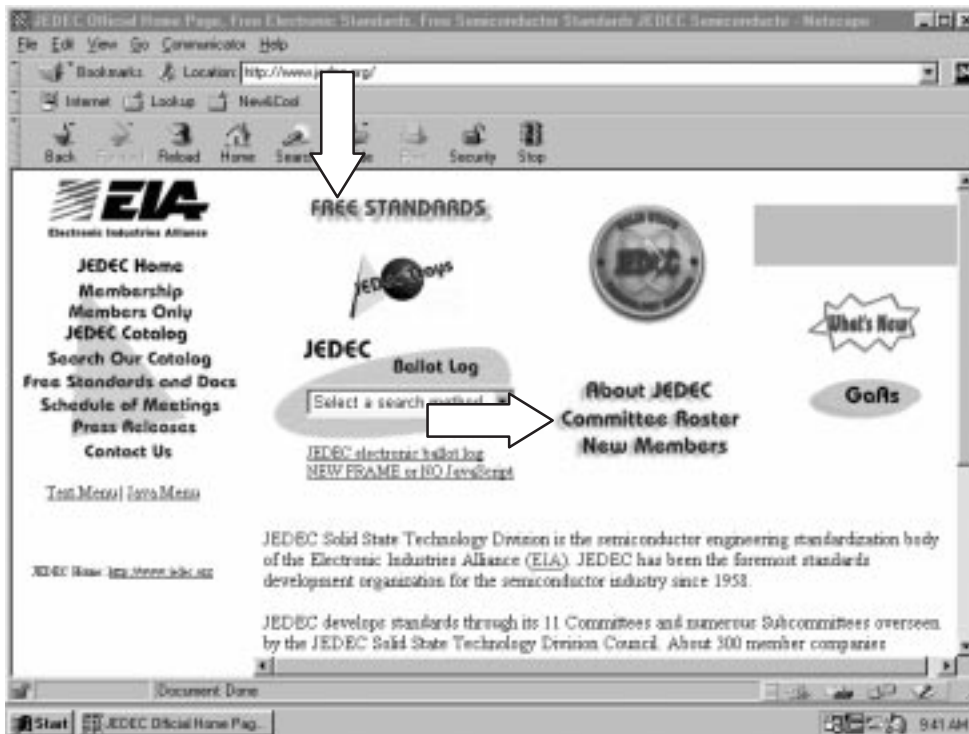
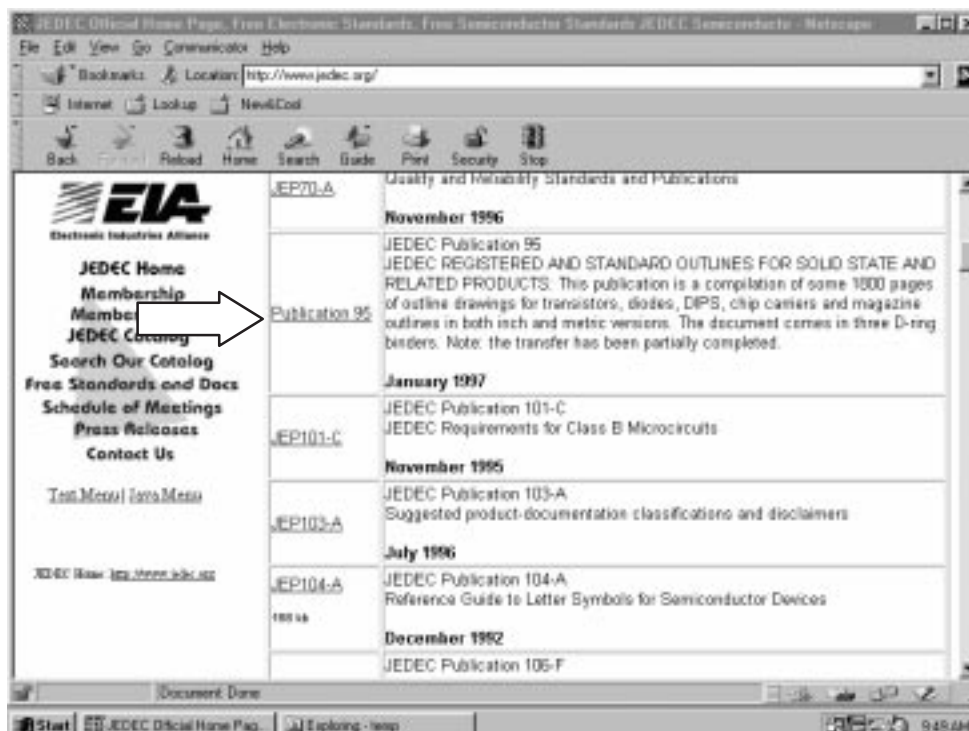

Figure 2. JEDEC Web Page
Figure 3. Access to Publication 95
JEDEC became a full division of the EIA in January 1998 and now controls its own budget and operation. JEDEC has been serving the industry for many decades in standardization efforts in the areas of test methods, nomenclature, packaging, and product characterization. JEDEC is governed by a board of directors composed of representatives of various member companies. JEDEC, with its many committees, is the engineering standardization body for solid-state products in the United States, with membership of more than 300 companies. The JEDEC web-page address is www.jedec.org (see Figure 2).
The JEDEC Committee Roster can be found on the JEDEC web page (Figure 2) by accessing Committee Roster, under the JEDEC seal. This roster provides information on the JEDEC office staff and the various JEDEC committees and chairs, with their company affiliations.
Publication 95 (Pub-95, JEP95), *JEDEC Registered and Standard Outlines for Solid State and Related Products*, is one of many documents published by EIA/JEDEC. Pub-95 documents several-hundred Registered Outlines, Standard Outlines, and various Design Guides endorsed by JC-11, Mechanical (Package Outline) Standardization. The publication has grown to three loose-leaf binders, which are divided into sections for easier use. The first few sections provide general information and the latter sections contain the various Registration and Standard documents. Pub-95 can be accessed from the JEDEC web page (see Figure 2) by selecting Free Standards, located just to the left of the JEDEC seal. The screen shown in Figure 3 is displayed. From this screen, scroll down and select Publication 95.
3. Select *Free Standards* (see Figure 2).
4. Scroll down and select *Publication 95* (see Figure 3).